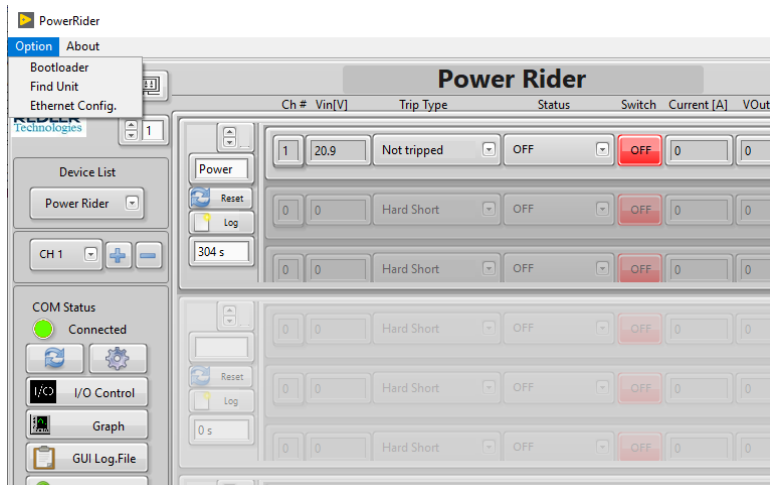

Figure 35 Option menu
1. Press "Connect" Button (see fig. 35 / 1)
2. Connect icon changed to green (see fig. 35 / 2)